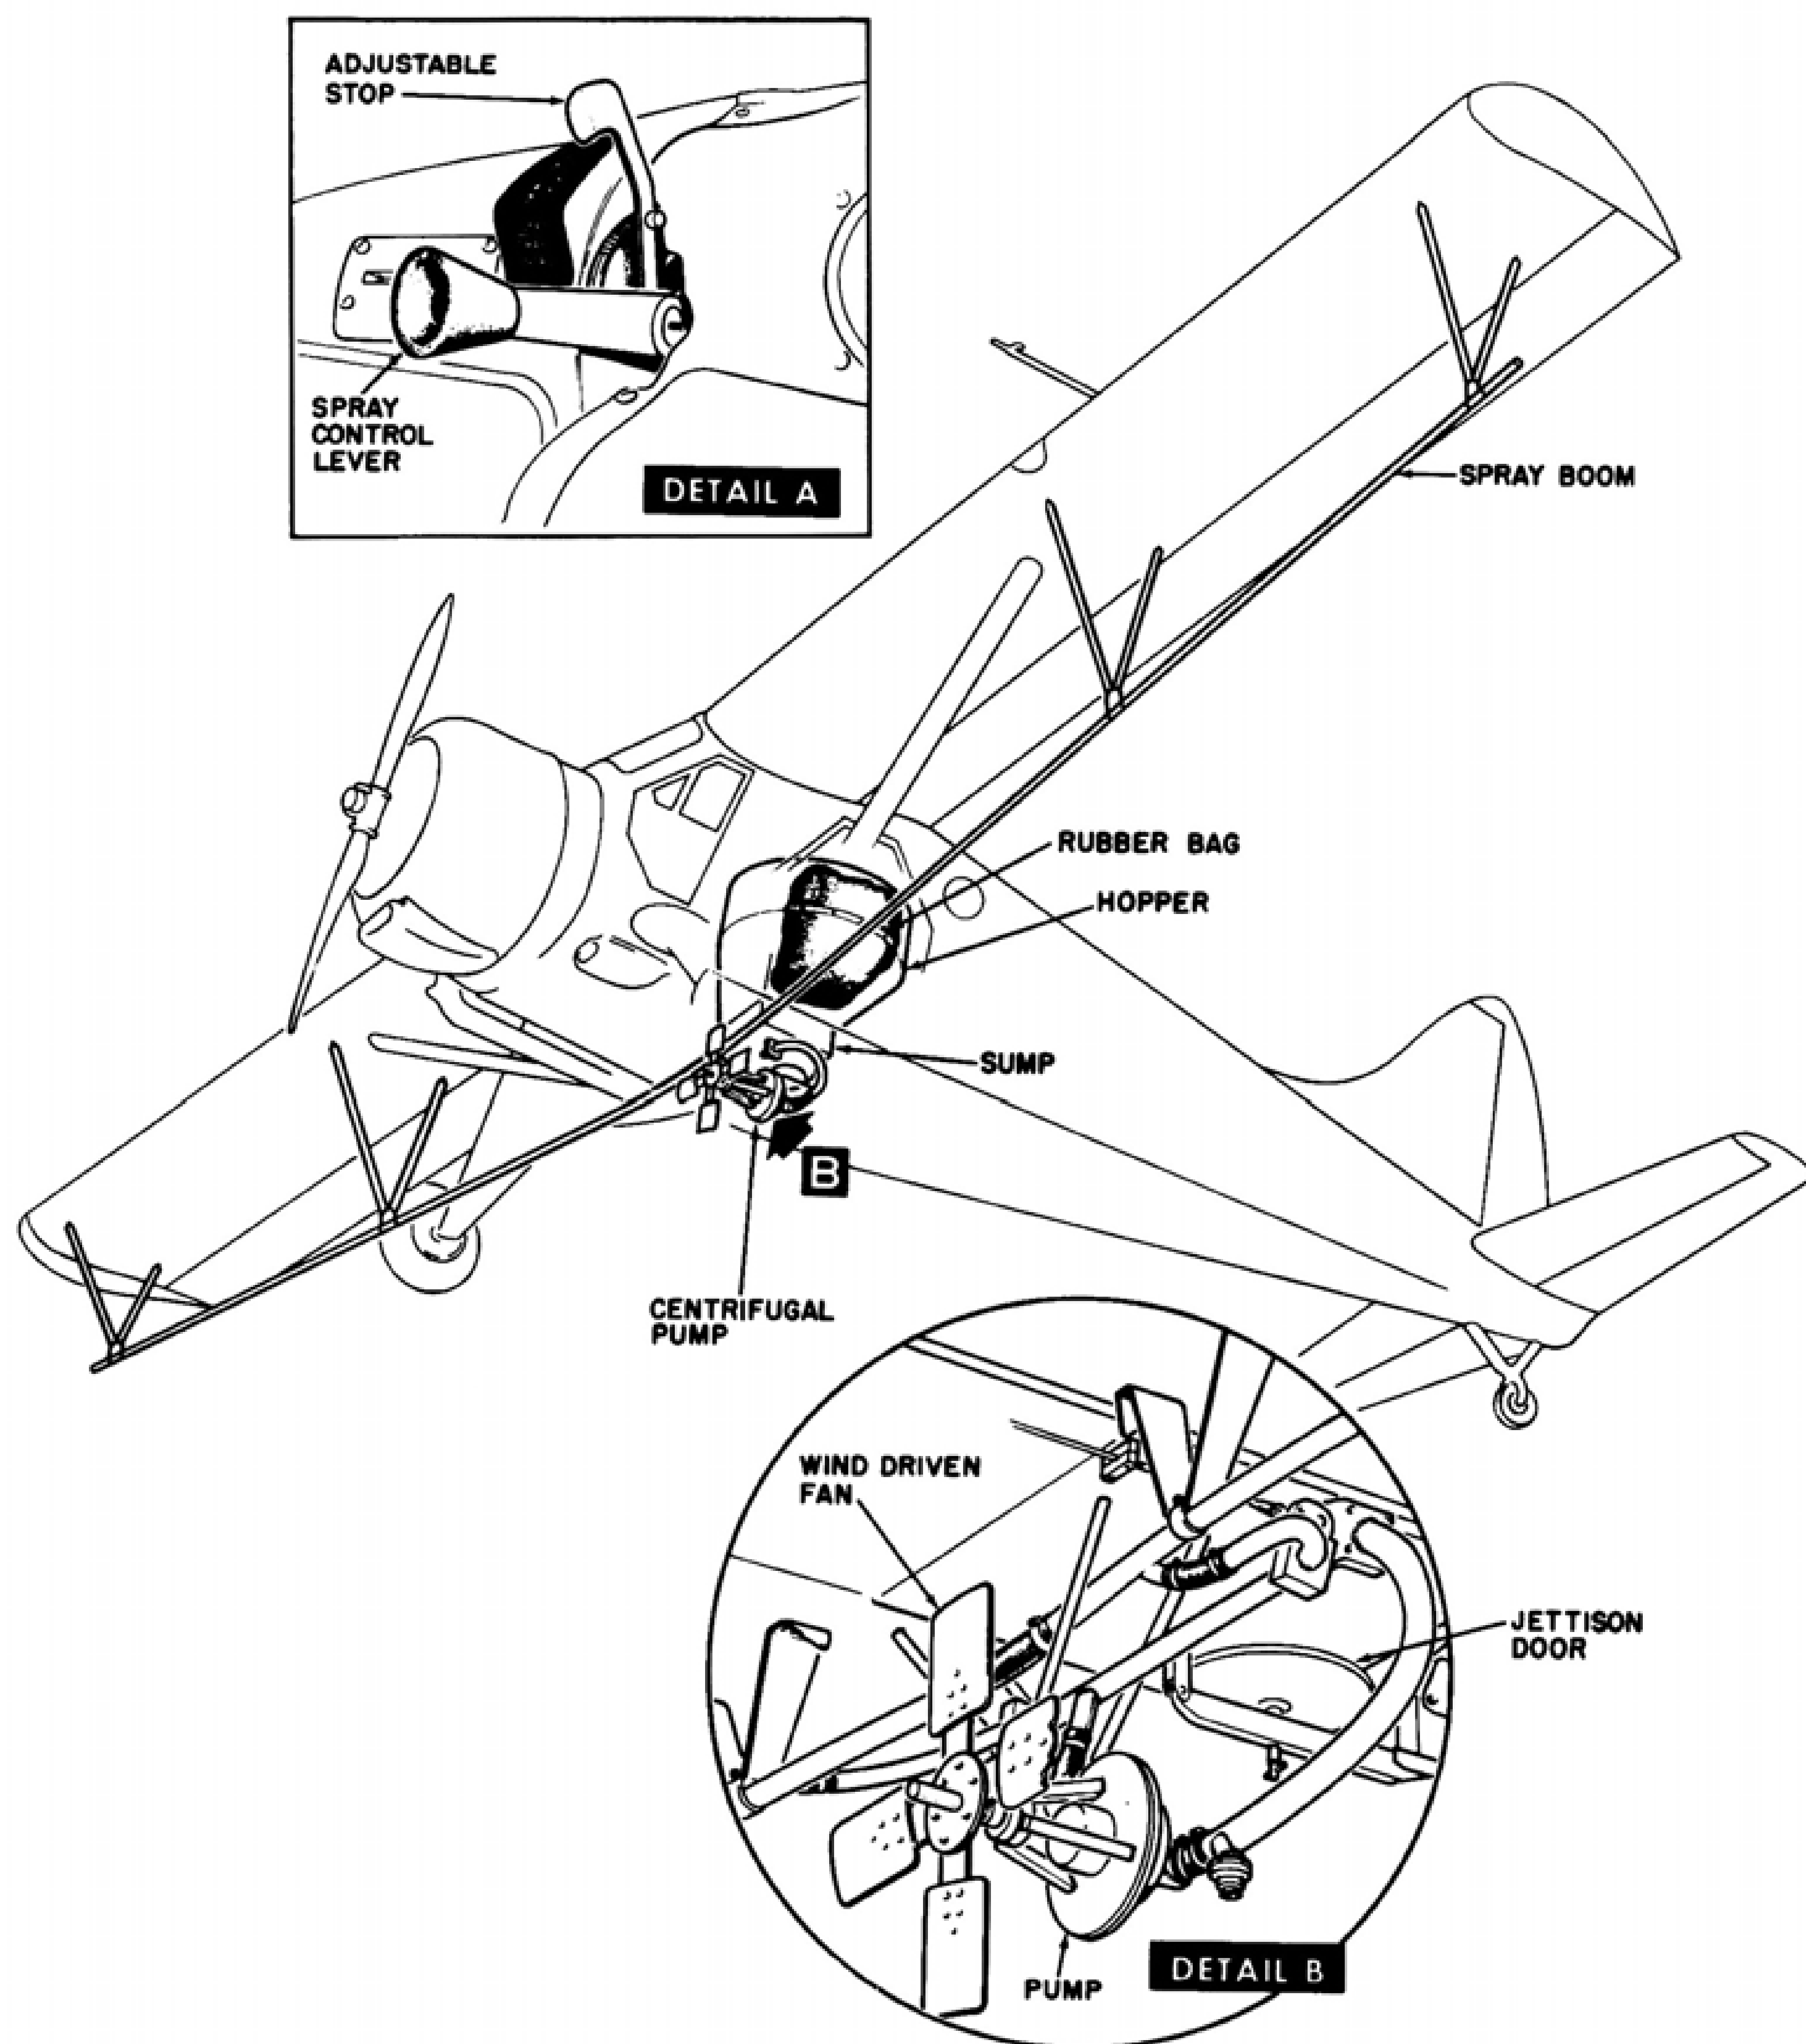

FIG S1-2 AGRICULTURAL MODEL SPRAYER INSTALLATION
2.2 Sprayer Installation (See Figure S1-2)